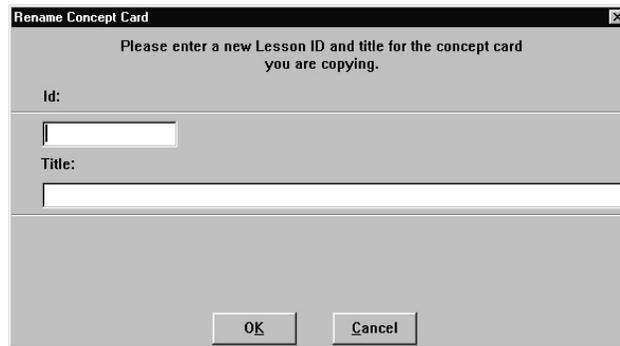

Figure 6-79. Rename Concept Card
- (1) If you click on **Rename**, the Rename Concept Card dialog box (Figure 6-79) appears to allow you to enter a new lesson ID and title for the concept card being copied, thus preventing the corresponding Working concept card from being overwritten.